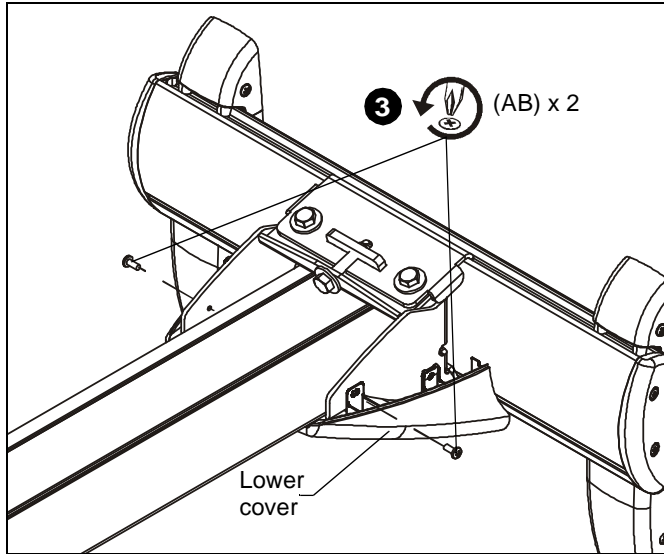

Figure 44
- Remove two 8-32 x 3/8" Phillips pan head screws (AB) from lower cover. (See Figure 44)